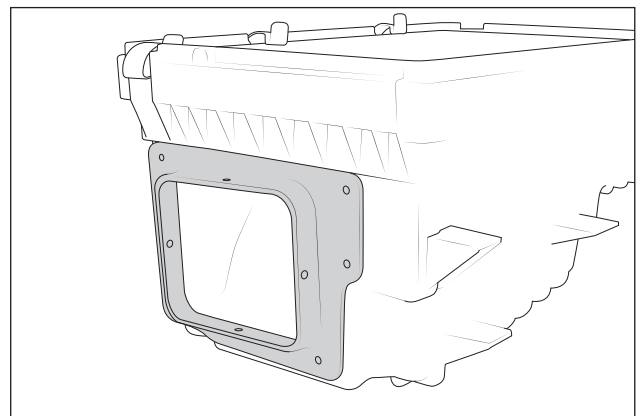

Figure 15
3. Position the AEV air inlet flange to the air box and mark the holes (Fig. 15). NOTE: Some air boxes have a smaller inlet hole. These should be trimmed using the AEV inlet flange as a guide.